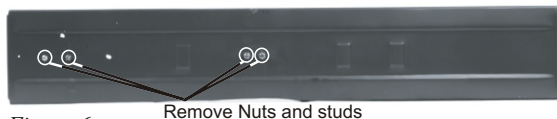

Figure 6
3. With the engine still in the shipping frame lay the engine on its side as shown in Fig. 6
4. Using the 7mm and 8mm wrenches, remove the nuts from the studs on the bottom of the shipping frame. (Fig. 6)